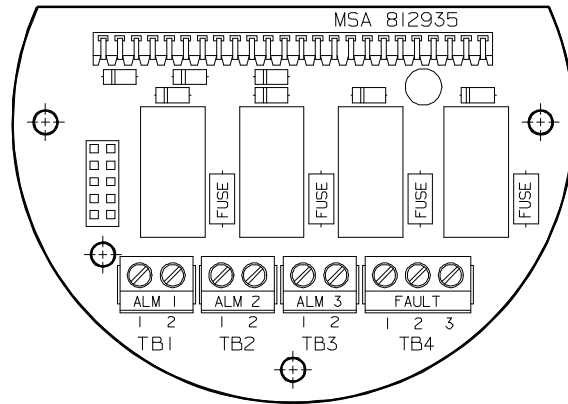

Figure 1-3.
3. The relay connections are made via one of the four terminal blocks labeled TB1, TB2, TB3, TB4 (FIGURE 1-3). TABLE 1-1 lists the relay connections provided by each terminal block.